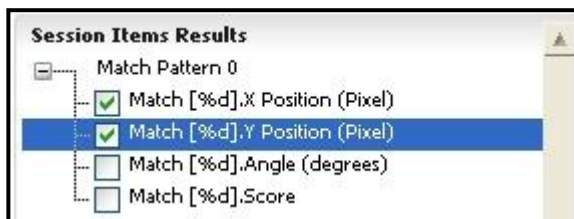

Figure 113. Select data you want to work on.
3. Choose the desired measurements/results from Session Item Results list. [Figure 113]